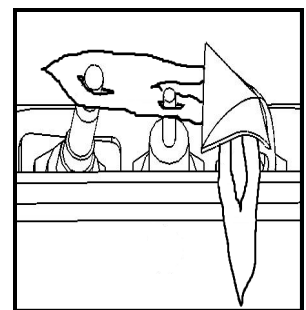

FIG. 2
4. Wait five (5) minutes to clear out any gas. Then smell for gas including near the floor. If you smell gas, STOP! Follow "B" in the safety information above. If you don't smell gas, proceed to step 5.
6. Continuing beeps confirm the ignition is in process. Once lighting the pilot flame should appear as shown in Fig.2. Once the pilot is confirmed, the main burner ignites on high.